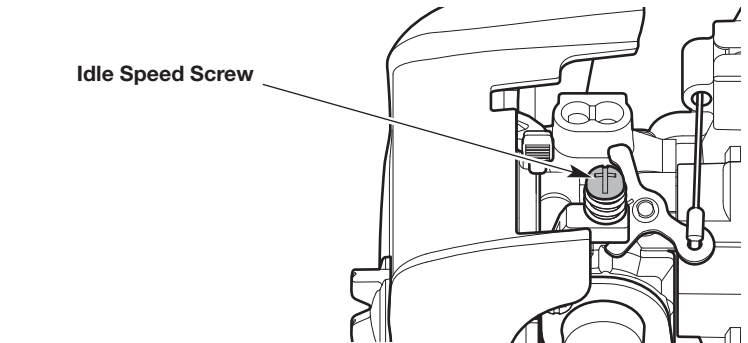

Fig. 33
- If the engine stops, increase the idle speed. Use a small Phillips screwdriver to turn the idle speed screw clockwise, 1/8 of a turn at a time, until the engine idles smoothly (Fig. 33).
- If the cutting head / blade spins when the engine idles, reduce the idle speed. Turn the idle speed screw counterclockwise, 1/8 of a turn at a time, until the cutting head / blade stops moving (Fig. 33).